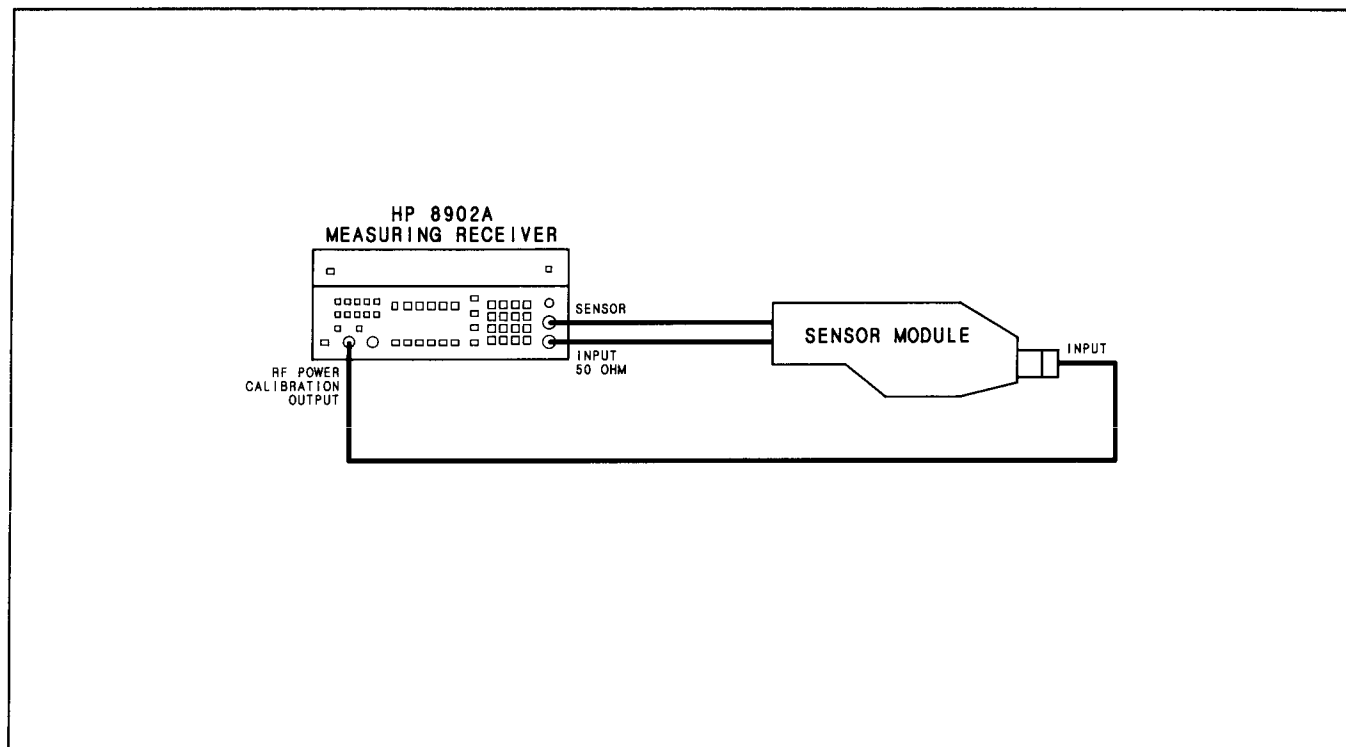

Figure 3-6. RF Power Calibration Setup
1. Connect the multi-conductor cable of the sensor module to the SENSOR input connector. Connect the RF coaxial cable of the sensor module to the INPUT 50 Ω connector (see Figure 3-6). Remove any cables from the Measuring Receiver's RF INPUT and SENSOR input connectors. Select INSTR PRESET (Blue Key, AUTOMATIC OPERATION). Observe the front-panel LED annunciators, display segments and decimal points, and key lights. All LEDs should light for approximately 10 seconds at turn on and then all should momentarily turn off.
3. Connect the sensor module input to the RF POWER CALIBRATION OUTPUT connector. (See Figure 3-6.)